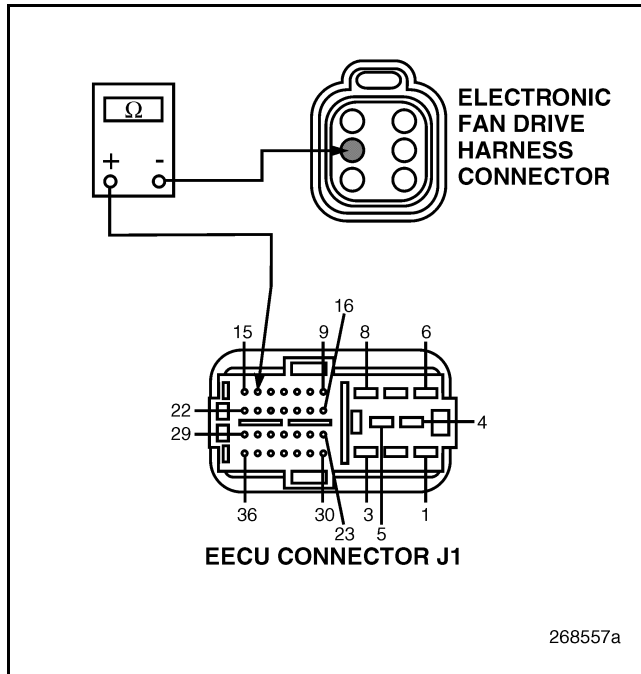

Figure 132
4. Check for continuity between EECU harness connector J1 pin 14 and electronic fan drive harness connector pin 2 (see Figure 132).